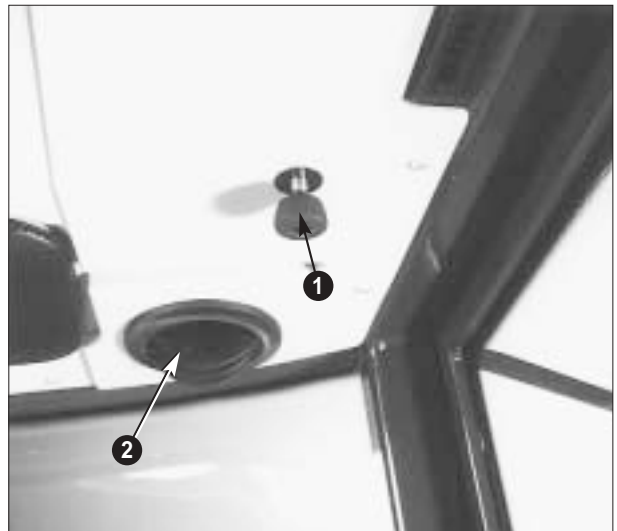

Fig. 15
- 2. The air nozzles can be opened/closed and set on spindle for right air direction (Fig. 15).
If fast heating is required, the nozzles 2 fig. 15 must be completely or partly open.
Before switching on the air-condition system, make sure that the heating tap fig.15 pos.1 is closed and that the heating fan fig.23 pos.11 is switched off.